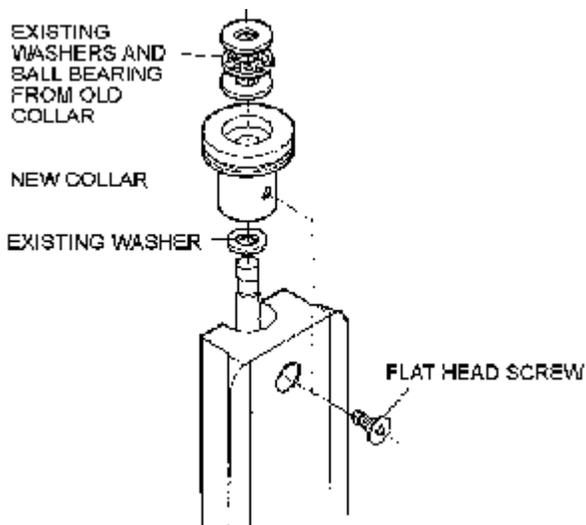

FIGURE 6-Order of washers and bearing in Z-axis thrust collar.
7. VERTICAL MILLING COLUMN-Using a 1/8" hex wrench, remove the flat head screw that holds the Z-axis thrust collar to the vertical milling column. Remove the collar by lifting it up and off the leadscrew. If the spacer washer sticks to the bottom of it, remove it and reinstall it on the leadscrew shaft. Then remove the ball bearing thrust and two washers from the collar and reinstall them in the new Z-axis thrust collar in the same order. (See Figure 6.) Install the new collar on the leadscrew shaft and secure it to the bed with the flat head screw.